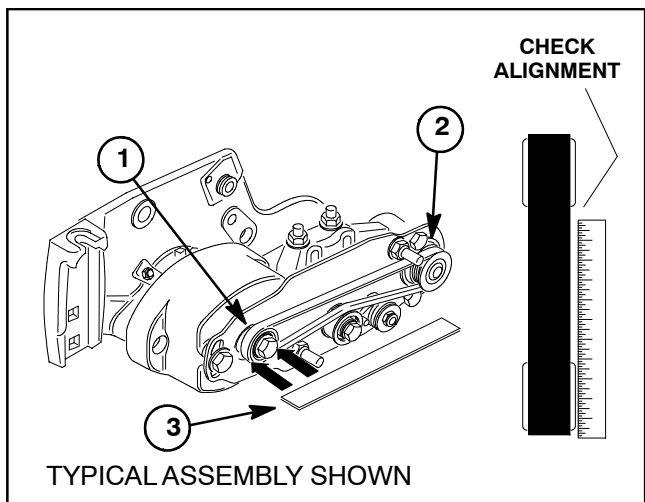

Figure 58
4. Check alignment of pulleys with a straight edge placed along the outer face of the driven pulley (Fig. 58). The outer faces of the driven and drive pulleys (not the idler pulley) should be in line within **0.030" (0.76 mm)**. If necessary to align pulleys, remove driven pulley from brush shaft and add or remove hardened washer(s) until drive and driven pulleys are aligned within **0.030" (0.76 mm)**.